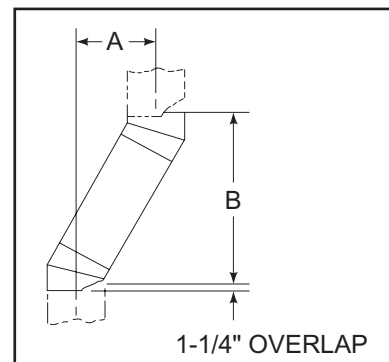

Figure 11A - Chimney Offset/Return
- Measure how far the chimney needs to be shifted to enable it to avoid the overhead obstacle. See Figure 11A, dimension "A" to determine chimney sections required to achieve the needed shift.
Example: Your "A" dimension from Figure 11A is 14-1/2". Using Table 1 the dimension closest to, but not less than 14-1/2" is 14-5/8" using a 30° offset/return. It is then determined from the table that you would need 33" (Dimension "B") between the offset and return. The chimney components that best fit your application are two SL312s.